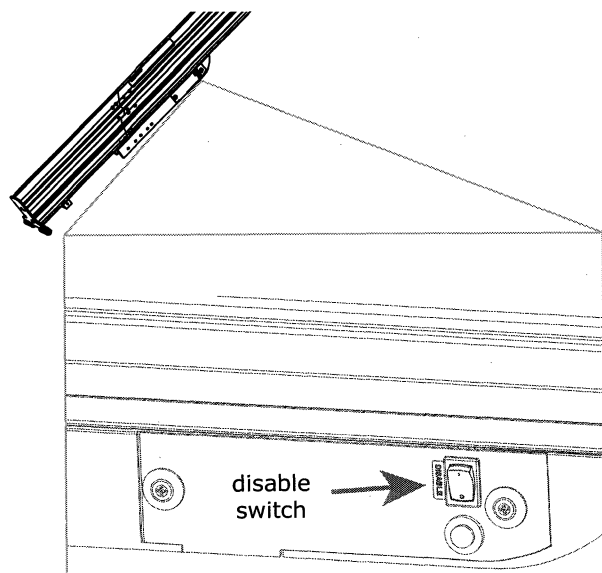

Fig. 24
22. Turn folding rail assembly disable switch "ON" [Fig. 24].